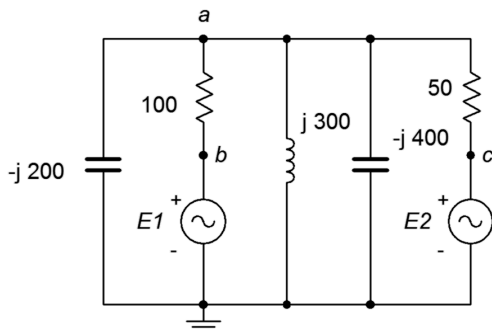

Figure 6.6
- Use mesh analysis to find the current through the $-j200 \text{ }\Omega$ capacitor in the circuit of Figure 6.6. $E1 = 18\angle 0^\circ$, $E2 = 12\angle 90^\circ$.
12. Given the circuit in Figure 6.6, use mesh analysis to determine v_{ac} . $E1 = 1\angle 0^\circ$, $E2 = 500E-3\angle 0^\circ$.